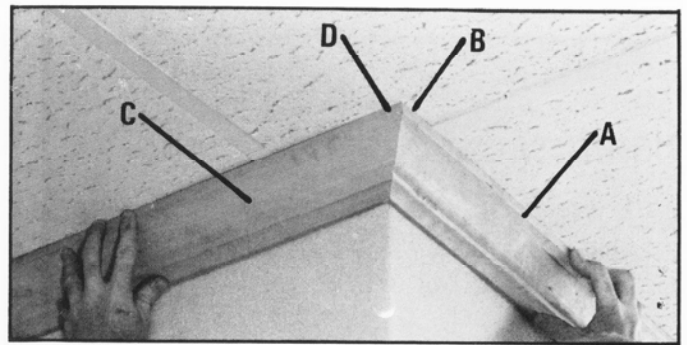
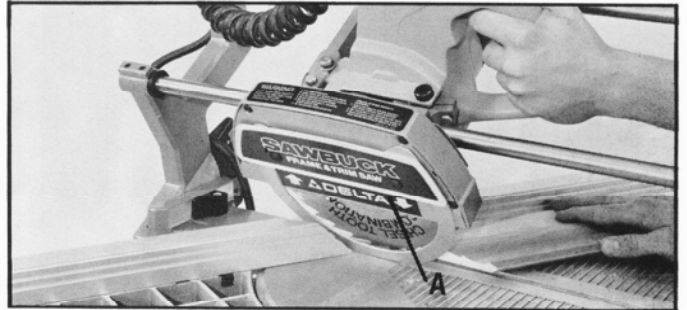
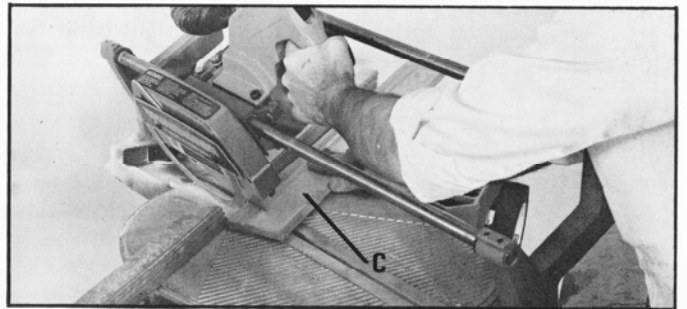

Fig. 60
Fig. 61
Fig. 62
A finished outside corner crown moulding is shown in Fig. 60. To perform these two cuts, proceed as follows:
1. Set the track arm to the 31 5/8 degree right miter position and tilt the saw blade to the 33 7/8 degree bevel position, as shown in Fig. 61.
2. Place the crown moulding (A) Fig. 61, on the saw and make the cut as illustrated. Piece (A) Fig. 61, is the right hand piece shown at (A) Fig. 60. NOTE: The long end of the cut (B) Fig. 60, is positioned against the fence.
3. Rotate the arm to 31 5/8 degree left miter position, as shown in Fig. 62. NOTE: The saw blade is still tilted to the 33 7/8 degree bevel position. Piece (C) Fig. 62, is the left hand piece shown at (C) Fig. 60. To cut piece (C) Fig. 60, the long end of the cut (D) Fig. 60, is positioned away from the fence, as shown in Fig. 62.